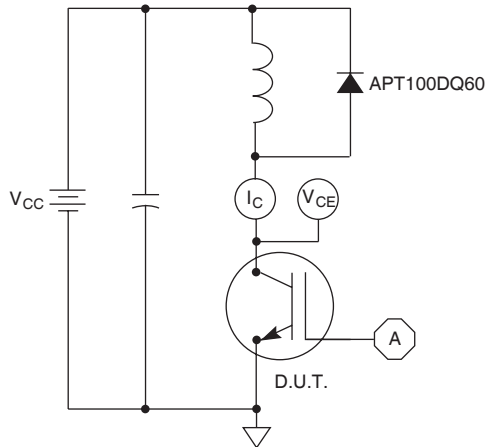

Figure 21, Inductive Switching Test Circuit
① Repetitive Rating: Pulse width limited by maximum junction temperature.
② For Combi devices, I_{ces} includes both IGBT and FRED leakages
③ See MIL-STD-750 Method 3471.
④ E_{on1} is the clamped inductive turn-on energy of the IGBT only, without the effect of a commutating diode reverse recovery current adding to the IGBT turn-on loss. Tested in inductive switching test circuit shown in figure 21, but with a Silicon Carbide diode.
⑤ E_{on2} is the clamped inductive turn-on energy that includes a commutating diode reverse recovery current in the IGBT turn-on switching loss. (See Figures 21, 22.)
⑥ E_{off} is the clamped inductive turn-off energy measured in accordance with JEDEC standard JESD24-1. (See Figures 21, 23.)
⑦ R_G is external gate resistance, not including $R_{G(int)}$ nor gate driver impedance. (MIC4452)
⑧ Continuous current limited by package pin temperature to 100A.